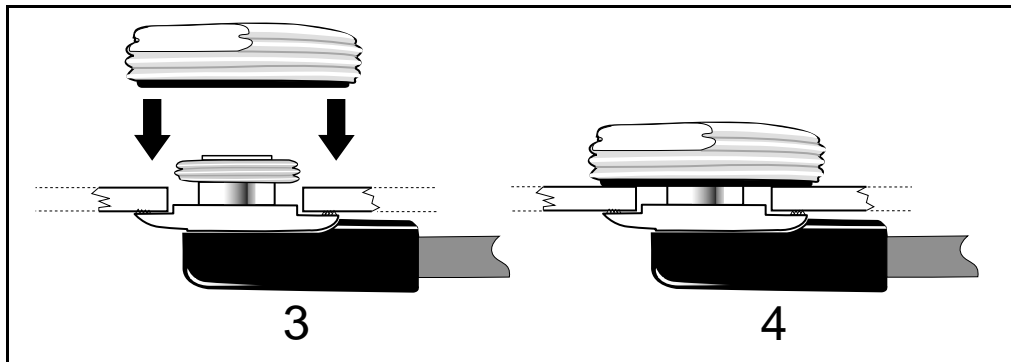

Figure 2.17 Re-installing the Brass Nut
6. Re-install the brass nut from the exterior of the vehicle (Figure 2.17).